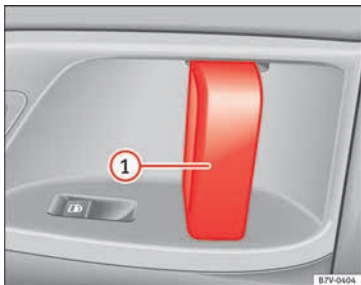

Fig. 135 On the sliding door, door handle ①
Opening the sliding door from the inside.	When the sliding door is released, open the door fully by pulling on its interior handle» Fig. 135 ①.